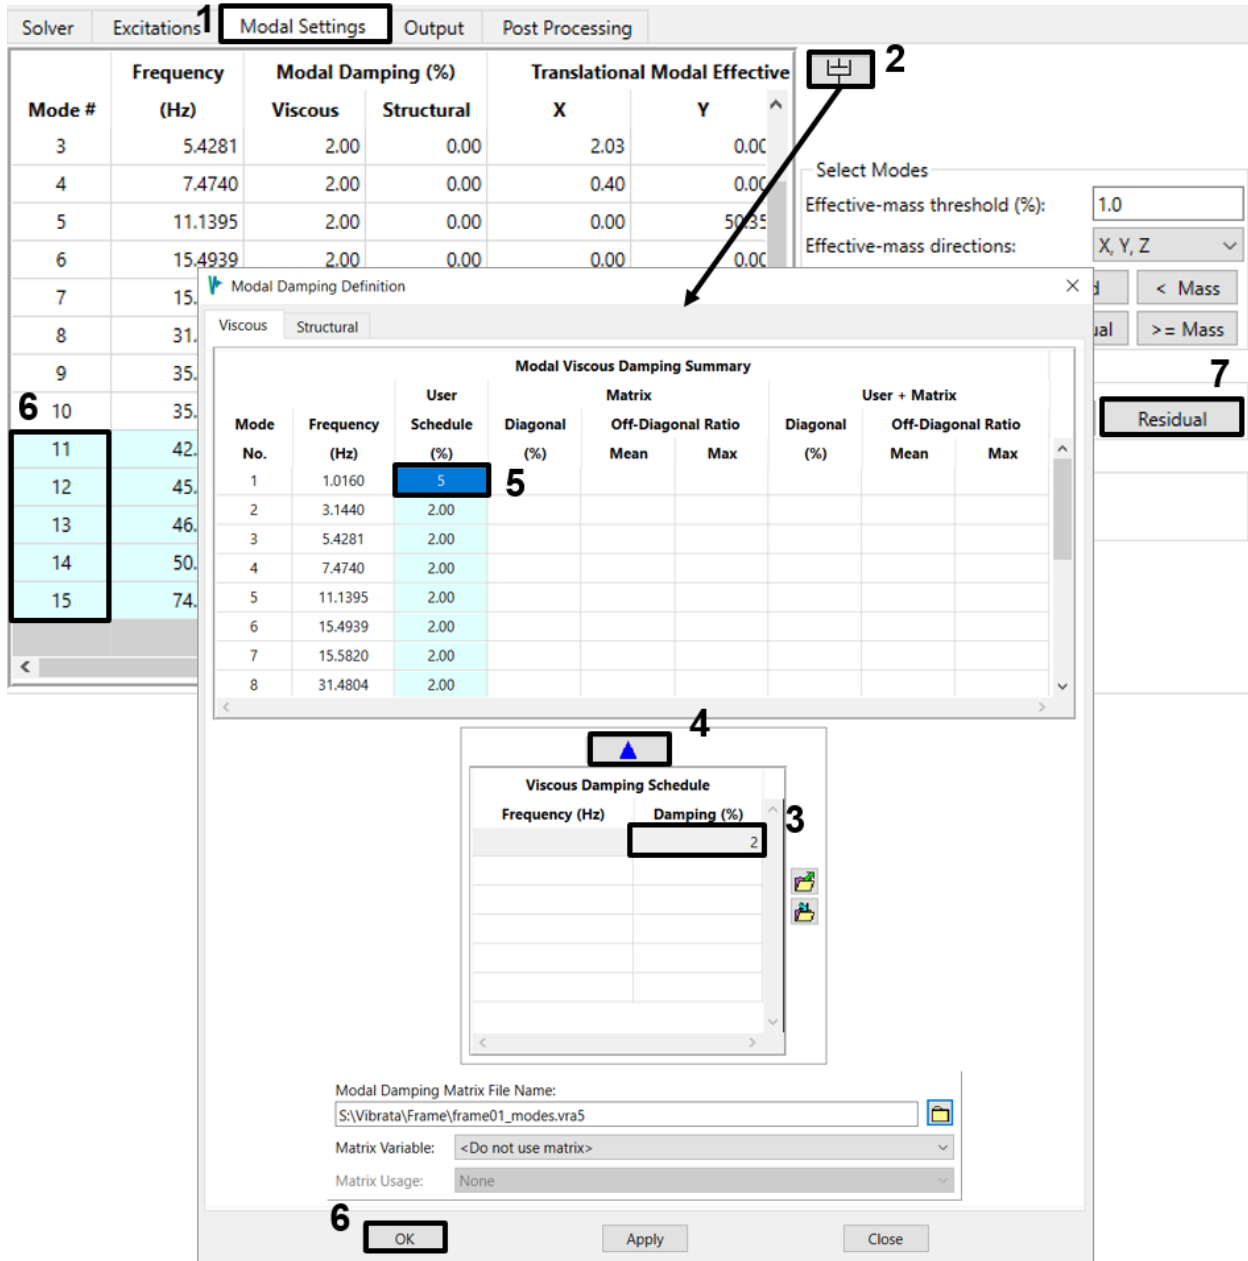

Figure 4-31. Apply 2% damping to all modes via damping schedule, then set mode 1 to 5%.
- c. Click the Apply Schedule button . In the *Damping Summary* table, each mode now has 2% damping. Change the first mode's damping to 5% by double-clicking on that cell in the *Damping Summary* table and typing in the value, as shown in Figure 4-31. Click **OK** to apply the damping changes and close the dialog.